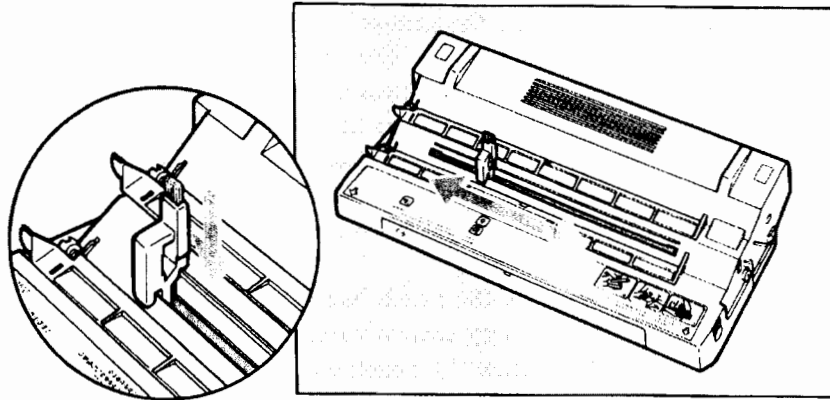

Figure 6-6: Accessing the Primary Corona Wire and Fuser Assembly
Clean the remaining areas as described in the following sections. Figure 6-6 shows the areas of the printer which require cleaning.
3. Push the rear section of the fusing assembly (Figure 6-6) fully open, toward the back of the printer. You will be able to see the four black, plastic fuser separation pawls (claws) along lower edge of the section you just pushed back.
The anti-static teeth are located just beyond the transfer corona wire, between two black plastic strips on the transfer corona housing (Figure 6-6). Periodically cleaning the anti-static teeth helps prevent paper jams. Use the cleaning brush provided with your printer to brush out any accumulations of paper dust and toner from around the anti-static teeth.